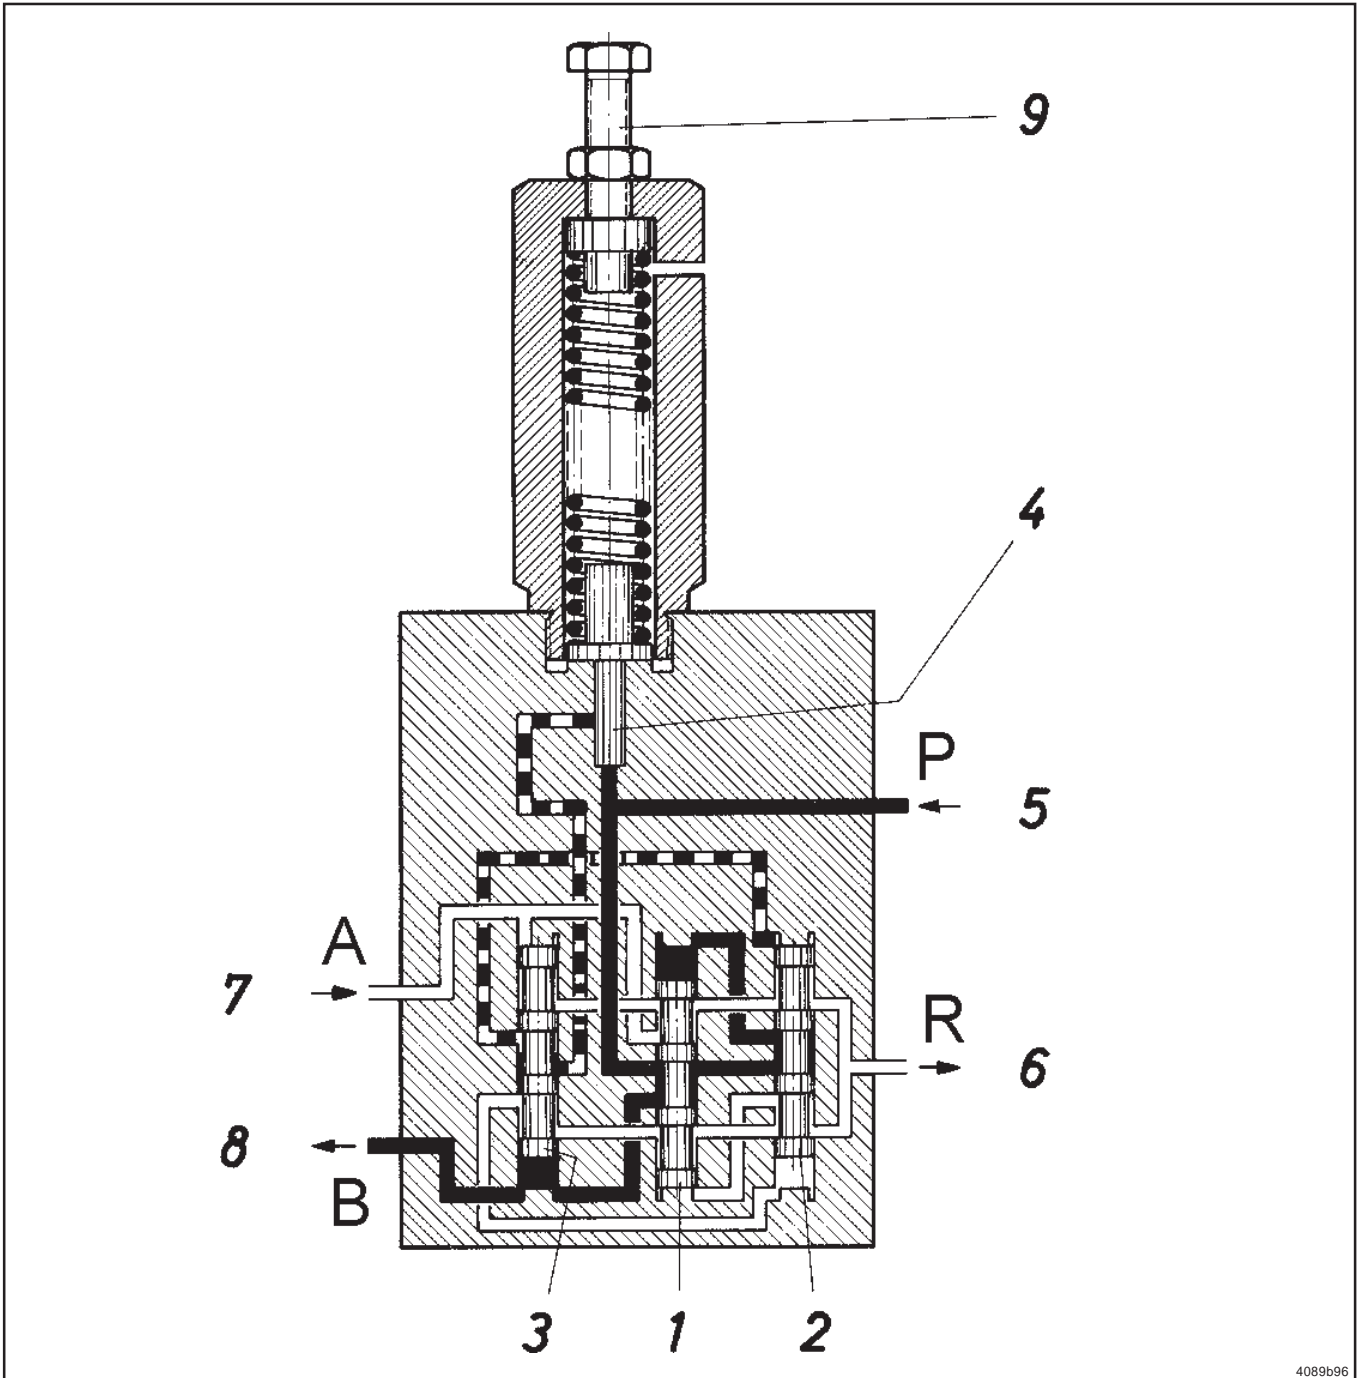

Fig.2: operation of change-over valve DU1
while the main line (7) is simultaneously connected to the reservoir of the central lubrication pump via the pressure relief line (6). The lubricant in the main line (7) can be relieved. The pressure rising in the main line (8) pushes up the change-over piston (3)(Fig. 2). The process described above is repeated for the main line (8).